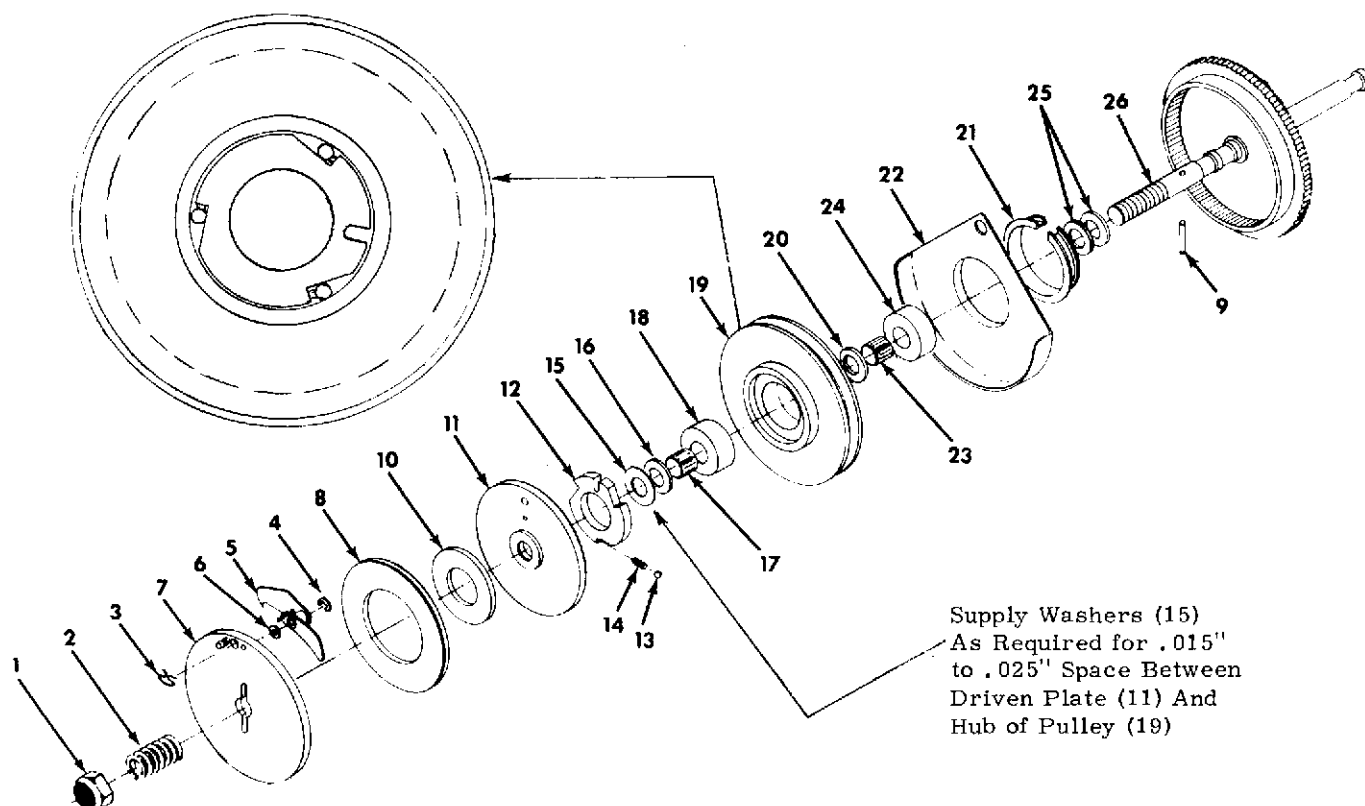

Figure 3-7. DISASSEMBLY AND REASSEMBLY OF FILM FEED CLUTCH ASSEMBLY
#### Disassembly of Film Feed Clutch (Figure 3-7)
#### Reassembly of Film Feed Clutch (Figure 3-7)
1. Apply one drop of Teresso Oil N-75 to Bearings (18) and (24) and mounting post for Pawl (5) and Toggle Spring (3).
2. Apply a very thin coat of DC44 lubricant to the slot in Driving Clutch Plate (7). DO NOT get this lubricant on the surface of the Plate.
3. Make sure Cam (12), Balls (13), Springs (14) and Pulley (19) are clean and free from dirt or grease. DO NOT lubricate these parts.
4. Assemble parts in reverse order of disassembly. (See insert on Figure 3-7 for orientation of Cam (12), Balls (13) and Springs (14). See note below.)